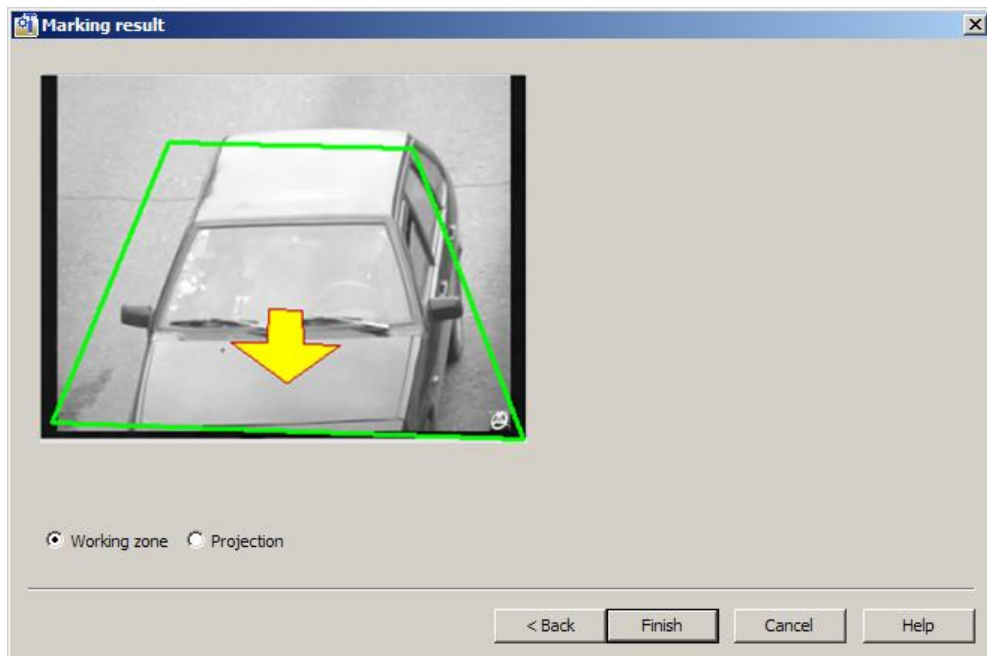

Fig. 7.4-9 Road markings result
Click the Finish button to complete the setup (see Fig. 7.4-9).
10. As a result of these actions Marking result window opens (see Fig. 7.4-9).